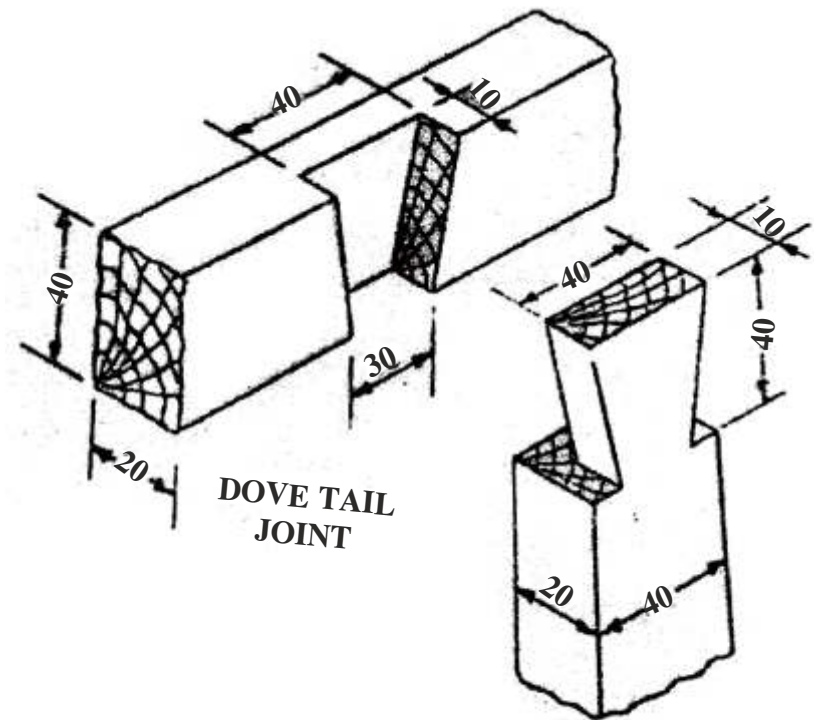

Fig.1
- Q.25 Detail drawing of dovetail bridge joint is shown in figure 1. Draw the following assemble views: